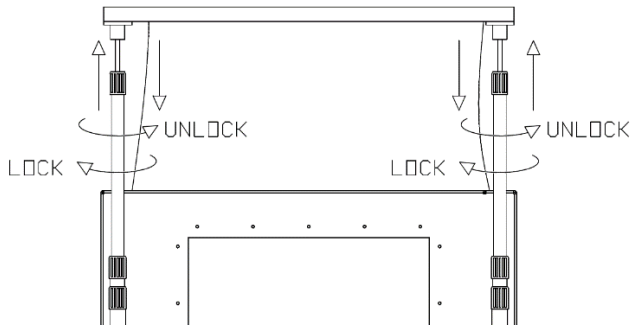

Figure 1
2. Lock all (4) four brakes on the casters at each corner.
- a. **For 1 person:** Start with the upper section of the pole in raising the retractable enclosure. Extend both poles on one side by first using a quarter turn counter clockwise to unlock. (Figure 1) Then raise and twist clockwise to lock (about 1/3 to 2/3rds of the way up) Move to the other side and raise about 2/3rds of the way up. Move back to the other side and raise to the ceiling. Complete the other side. Make sure to compress the springs at the top of each pole to ensure a good seal. Utilize the second pole section as required to reach the ceiling height after the first section has been fully extended.